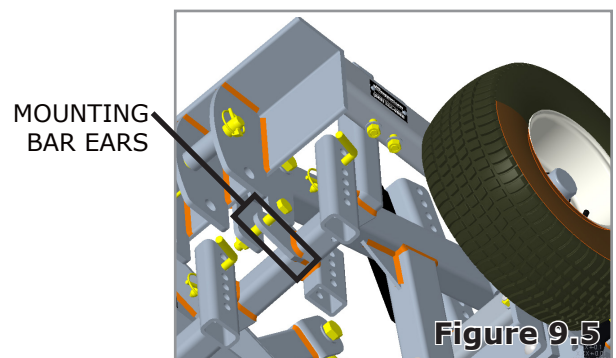

Figure 9.5
7. Slide new bolts through existing frame and ears on mounting bar and re-tighten nuts using (2) 15/16" wrenches (**Figure 9.5**).